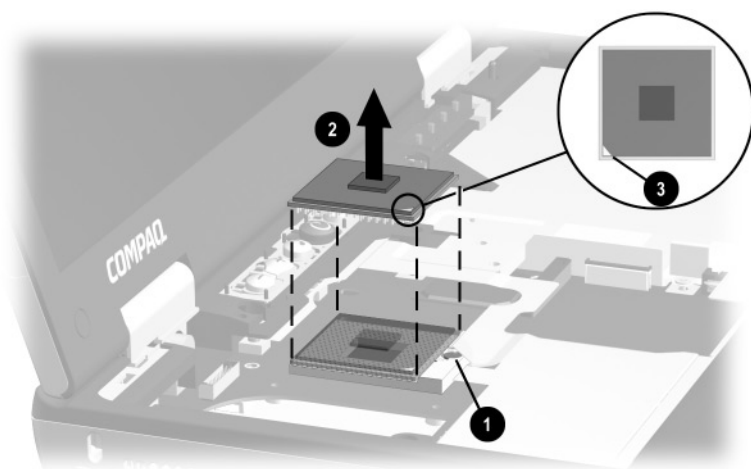

Figure 5-14. Removing the Processor
2. Use a flat-blade screwdriver to turn the processor locking screw ❶ one-half turn counterclockwise (Figure 5-14).
3. Lift the processor straight up ❷ to remove it from its socket.